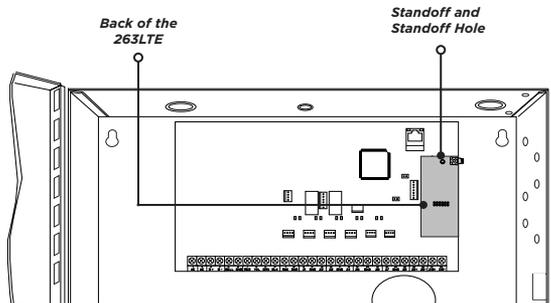

Figure 3: 263LTE on an XR and XF6 Series Control Panel
3. Secure the 263LTE on the 12-pin cell module connector. See Figure 3.